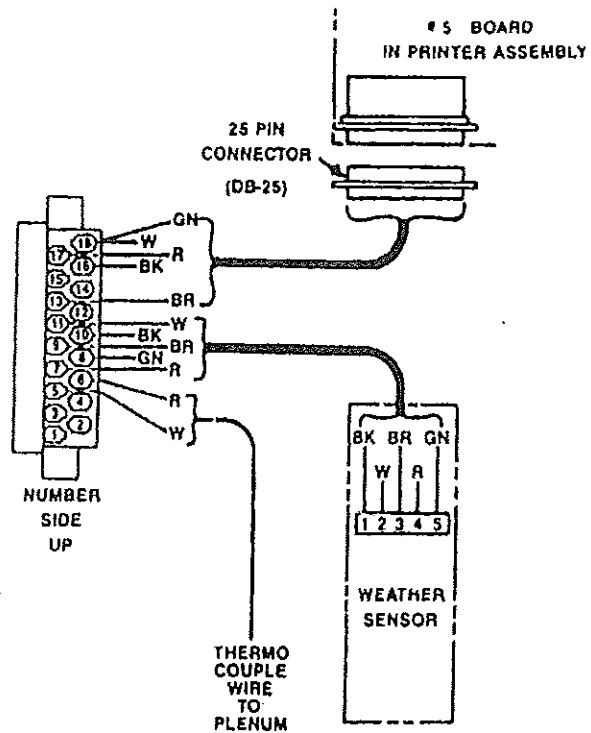

Figure 42
The (5) wire cable from the Sensor Board is pulled up through the bushing and the Mount Housing is secured to the bottom of the cabinet by turning the bushing into the mount housing until tight. Now place the (5) wires listed above into their correct terminals and tighten, see Figure 42.
A length of (5) wire cable will probably have to be spliced and soldered to the 8 ft. (2.44m.) cable supplied with the Weather Sensor to reach the distance selected from the dryer. Be sure to allow 36" (92cm.) from the bottom of the remote cabinet to the (36) Pin Black Connector at the top inside of the cabinet. See Figure 42.